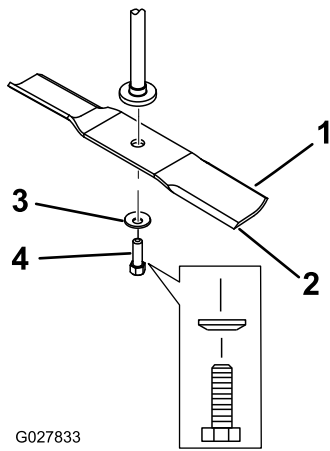

Figure 55
2. Remove the blade bolt, curved washer, and blade from the spindle shaft (Figure 55).
- Install the blade onto the spindle shaft (Figure 55).
- Install the curved washer (cupped side toward the blade) and the blade bolt (Figure 55).